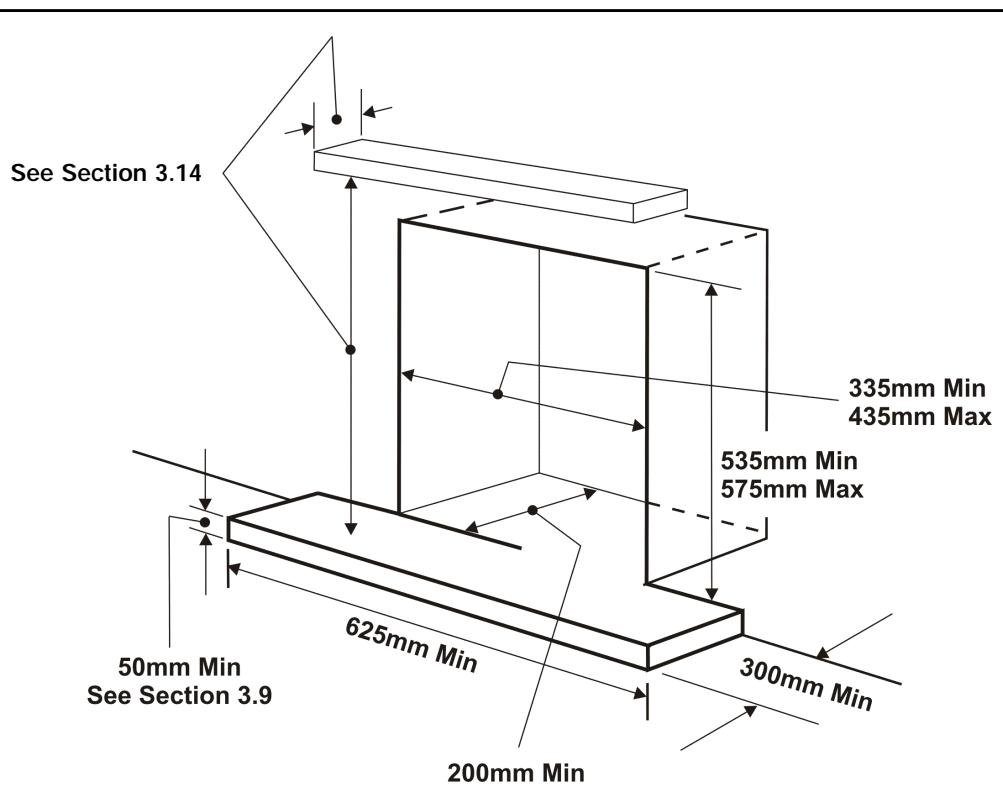
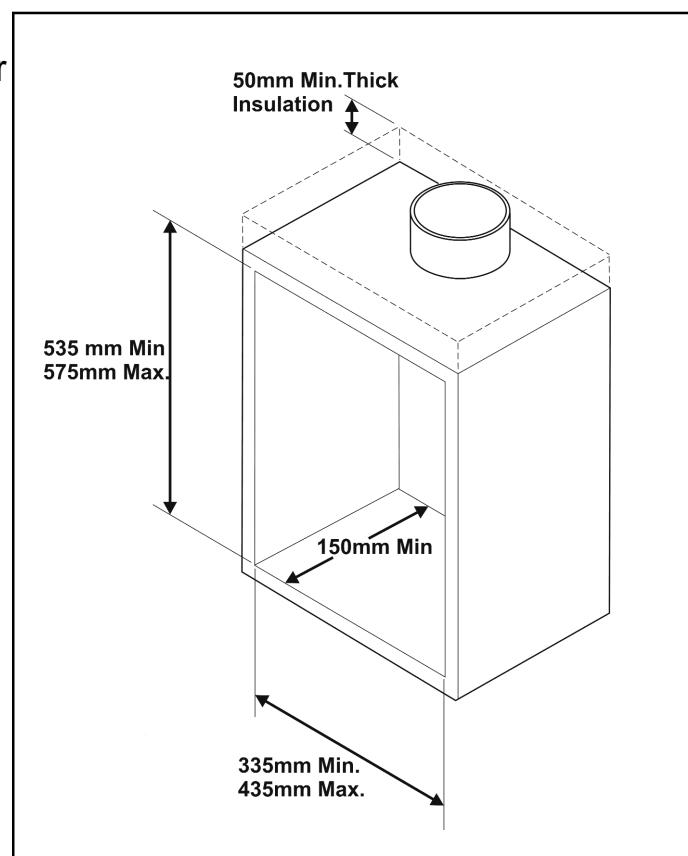

Figure 1. Hearth and fireplace opening dimensions (See section 3.2.1.1)
Figure 2. Metal flue box
- It is recommended that a hearth should be installed as in section 3.9 (See figure 1).
3.2.2 To a fireplace incorporating a metal flue box conforming to BS EN 1856 Part 1 or BS715 with a minimum internal depth of 150mm. Incombustible mineral wool insulation of not less than 50mm thickness must be applied to the top surface of the firebox (See figure 2) and it must stand on a non-combustible hearth (See figure 1).
The appliance must not stand on combustible materials or carpets (See figure 1).
The whole of the top surface of the metal flue box must be covered with a minimum 50mm layer of mineral wool or equivalent insulation (See figure 2).